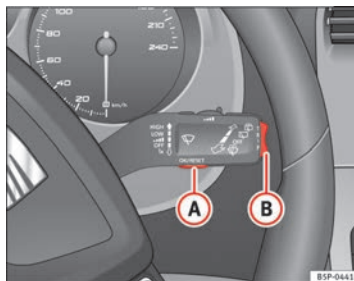

Fig. 47 Windscreen wiper lever (MFI): button A to confirm the menu selection and rocker switch B to change the menu
- Select the option **Vehicle status** from the main menu: “Main menu” and press button **OK** on the windscreen wiper lever **A** ⇒ Fig. 47. **or**